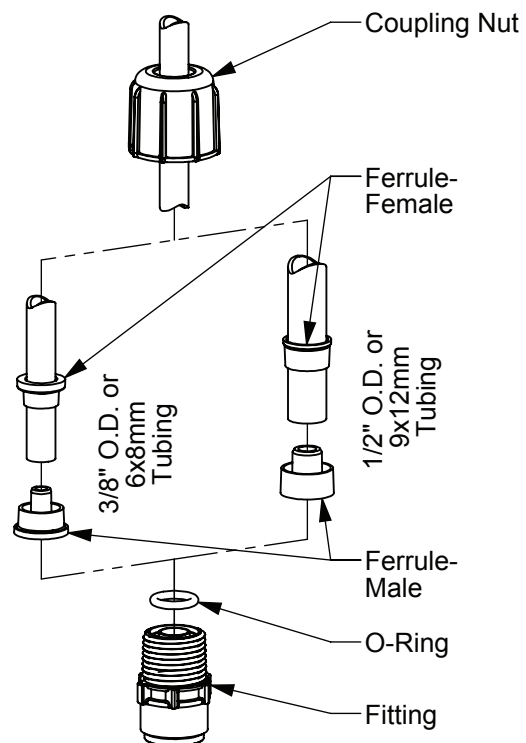

FIGURE 2
- 2b. For 3/8" or 1/2" OD tubing: Position a Female Ferrule about one inch (25 mm) from end of tubing. Orient the raised collar of the Female Ferrule toward the Coupling Nut. Then, insert the Male Ferrule onto the end of the tube, pushing the tube into the bottom of the groove in the Male Ferrule. Then slide the Female Ferrule down the tubing and with your fingers, press tightly into the Male Ferrule (reference FIGURE 2).